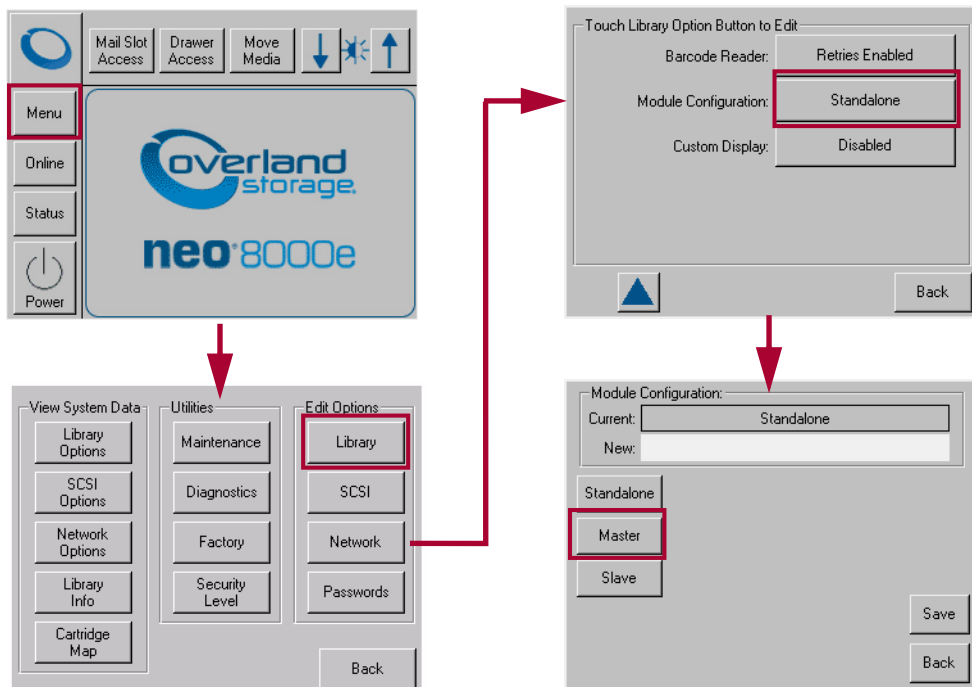

Figure 6-2: Configure Master Unit
3. On the Master unit, select: **Menu > Edit Options Library > ▼ > ▼ > Module Configuration > Master** (see Figure 6-2).